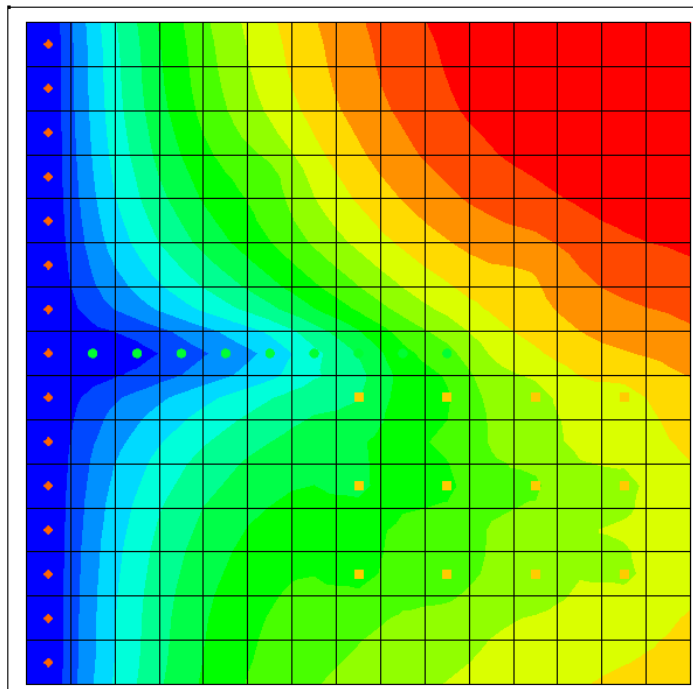

Figure 7 Creating a polygon that encompasses the model grid
2. Using the **Create Arc**  tool, create an arc that surrounds the grid. End the arc by clicking on the starting node in order to form a closed polygon (Figure 7).